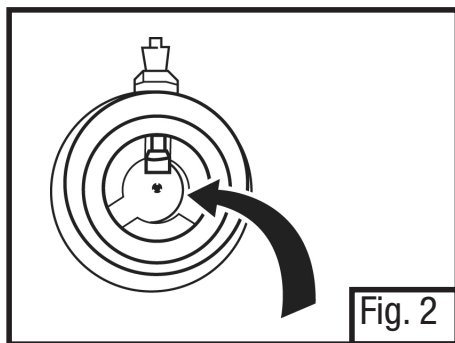

Fig. 2
3. Make certain the 601 Adapter's inhalation valve is in place (Fig. 2).